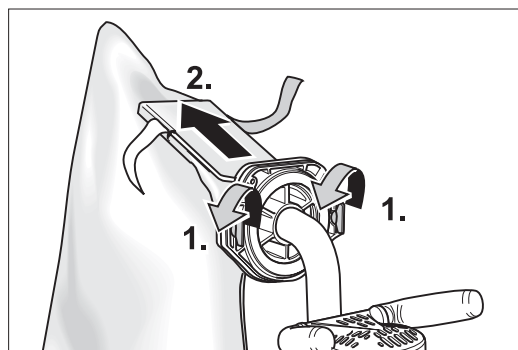

Fig. 15 Open the two quick-release fasteners and pull off the dust bag.
- 5 Open the two quick-release fasteners on the locating flange (Fig. 15).
- 6 Slowly pull the dust bag off the locating flange (Fig. 15).